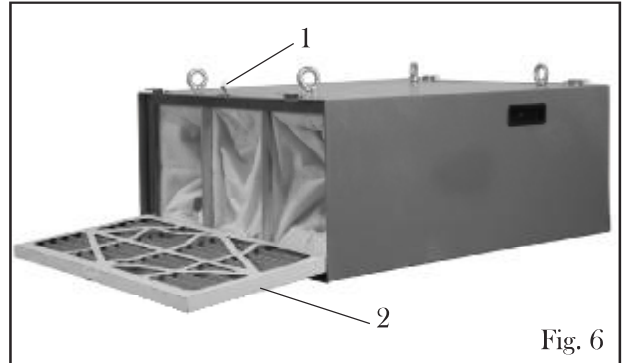
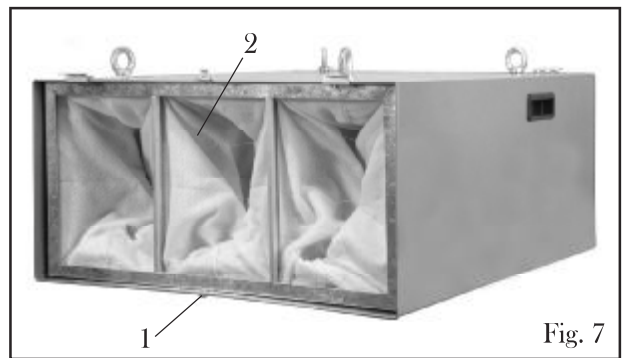

Fig. 6
Fig. 7
CHANGING THE FILTERS (Fig. 6 & 7)
1. Lift up the upper and lower filter lock clips (Fig. 6 - 1 and Fig. 7 - 1) on the back of the air filter cabinet. Remove the outer filter (Fig. 6 - 2) from the cabinet housing.
2. Carefully pull the inner filter (Fig. 7 - 2) out of the cabinet.